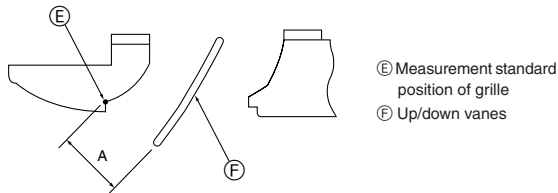

Fig. 8-10
- ① Turn off the main power switch.
- ② Disconnect the connector for the vane motor of the vent that you want to lock.
- ③ To adjust the desired airflow direction, slowly move the up/down vanes within the specified range. (Fig.8-10)